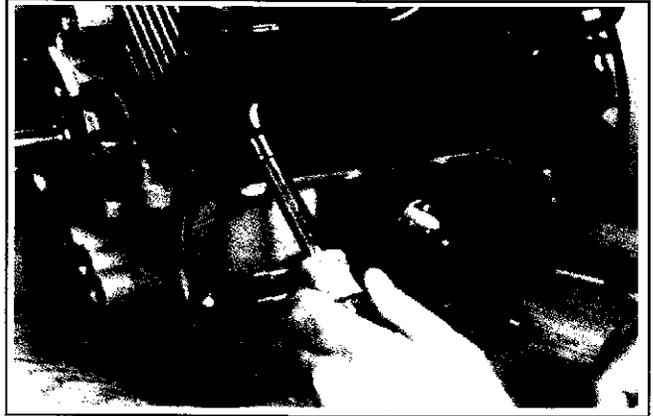

Figure 9-13. Removing #2 Side Baffle.
1. Remove the single screw holding the side baffle to the #2 cylinder and remove the baffle. See Figure 9-13.